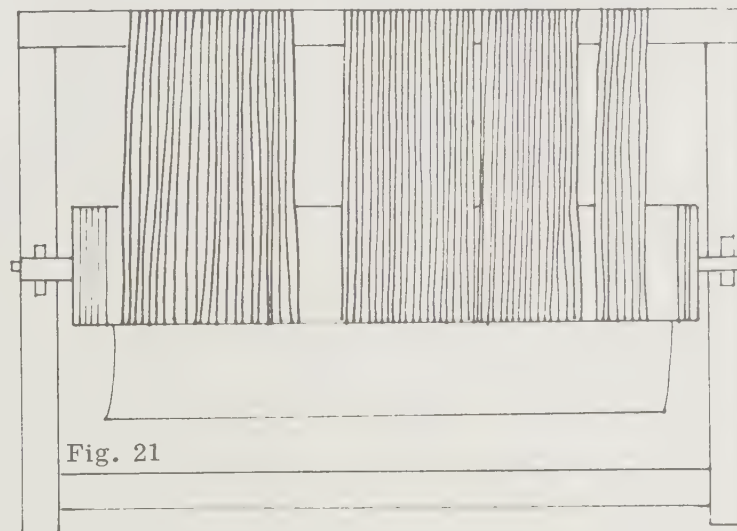

Fig. 21
5. Using the crank, roll the warp on to the roller, inserting paper between layers of yarn. Continue rolling, pulling warp at intervals to straighten out tangles, loose threads and to put some tension on it. See Fig. 21. Tie warp to front of loom.